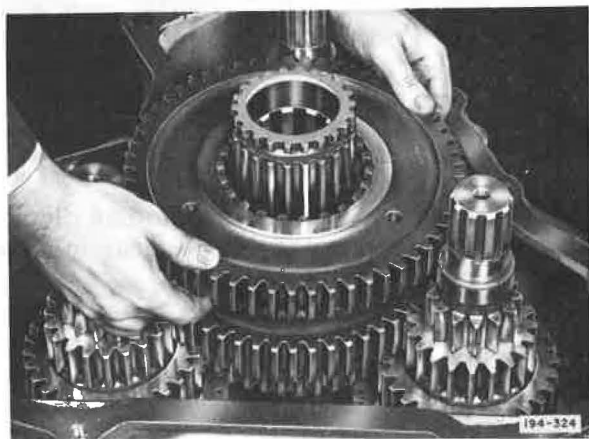

Figure 5-43. Installing First Speed Gear
7. Install first speed gear (clutch teeth to the rear) and engage with countershaft first speed gears. See Figure 5-43.